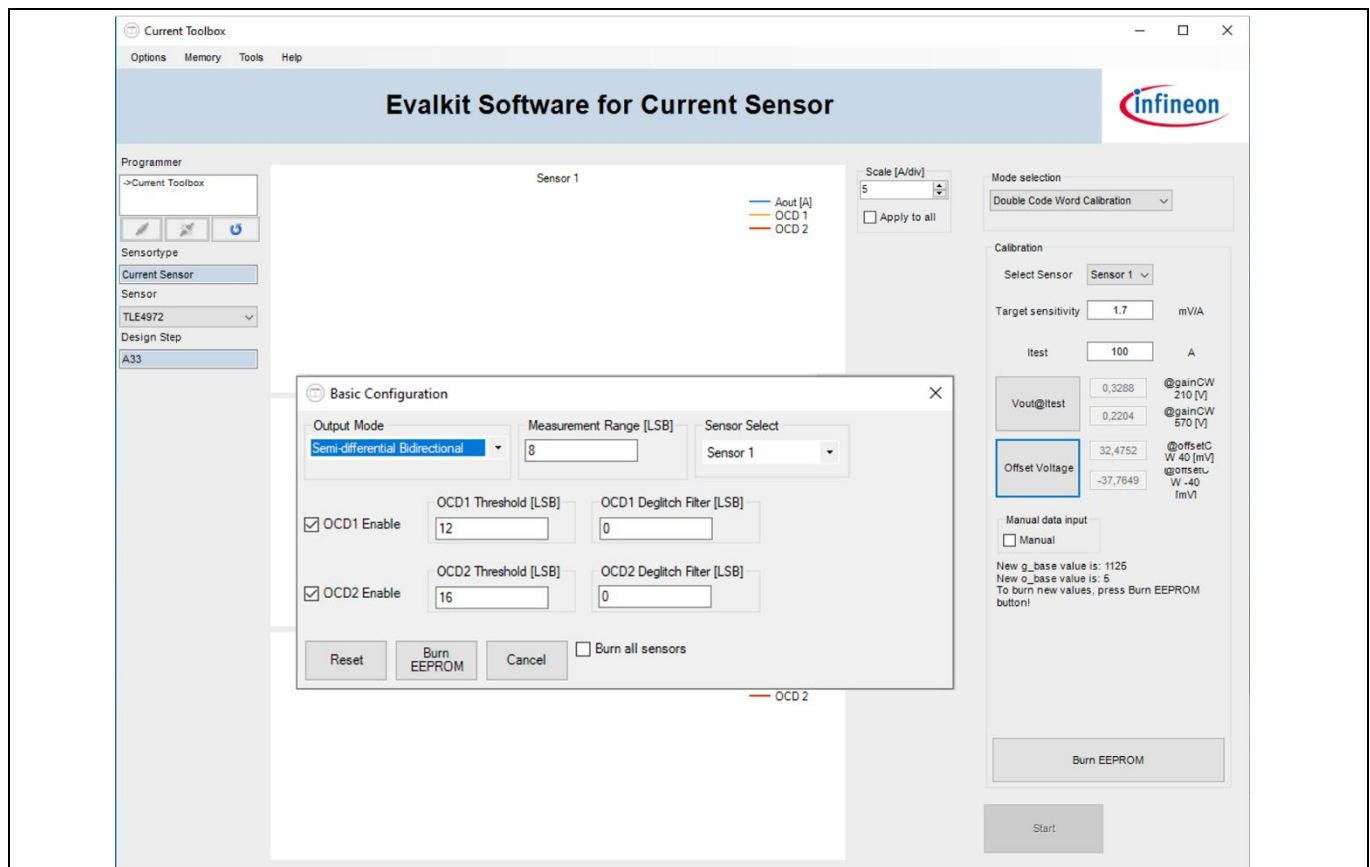

Figure 24 Screenshot current toolbox TLE4972-AE35D5 (basic configuration)
6. Start the programming GUI (see Figure 24)